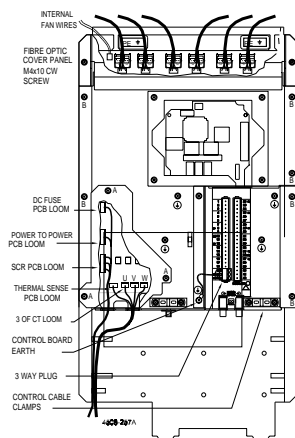
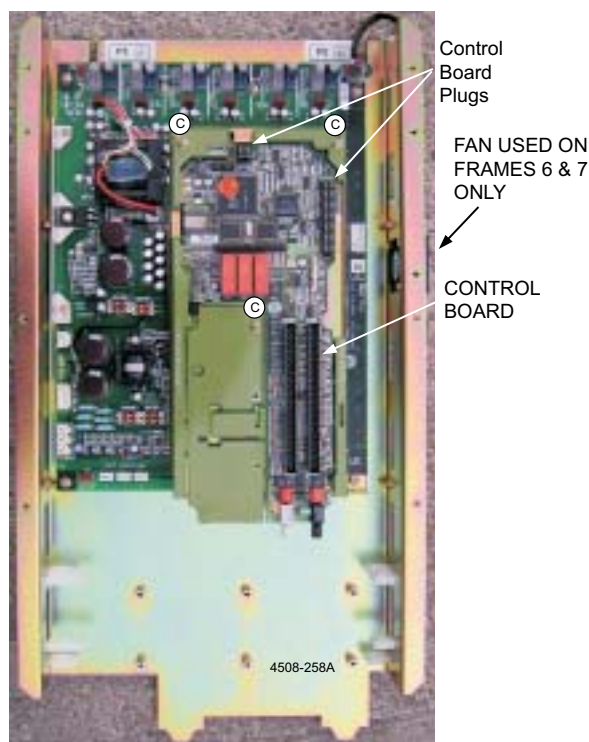

Figure 7.6: Frame 5 to 7 Power Tray
Figure 7.7: Frame 5 to 7 Power Tray and Control Board
- 3) Referring to figure 7.6 access to the wiring looms on the lower left hand side by removing screws (A) 3 off CW M4x10 retaining this plate.
- 5) Remove the remaining cover plates in one assembly by removing screws (B) 3 off M4x10. Slide the cover plate assembly down slight to clear the fibre-optic connections before lifting it clear.
- 6) Referring to Figure 7.7, the Control board is held by the Phillips screws (C), 3 off M4X10 screws. Remove these and lift the control board vertically off the connecting pins.
- 10) Gently push the 6 pin connector down slightly and repeat the process with the 40 pin connector. When this is completed, check through the slots to ensure no connecting pins are showing or damaged then push the control board completely home. Replace the 3 off M4x10 Phillips screws as per figure 7.7.